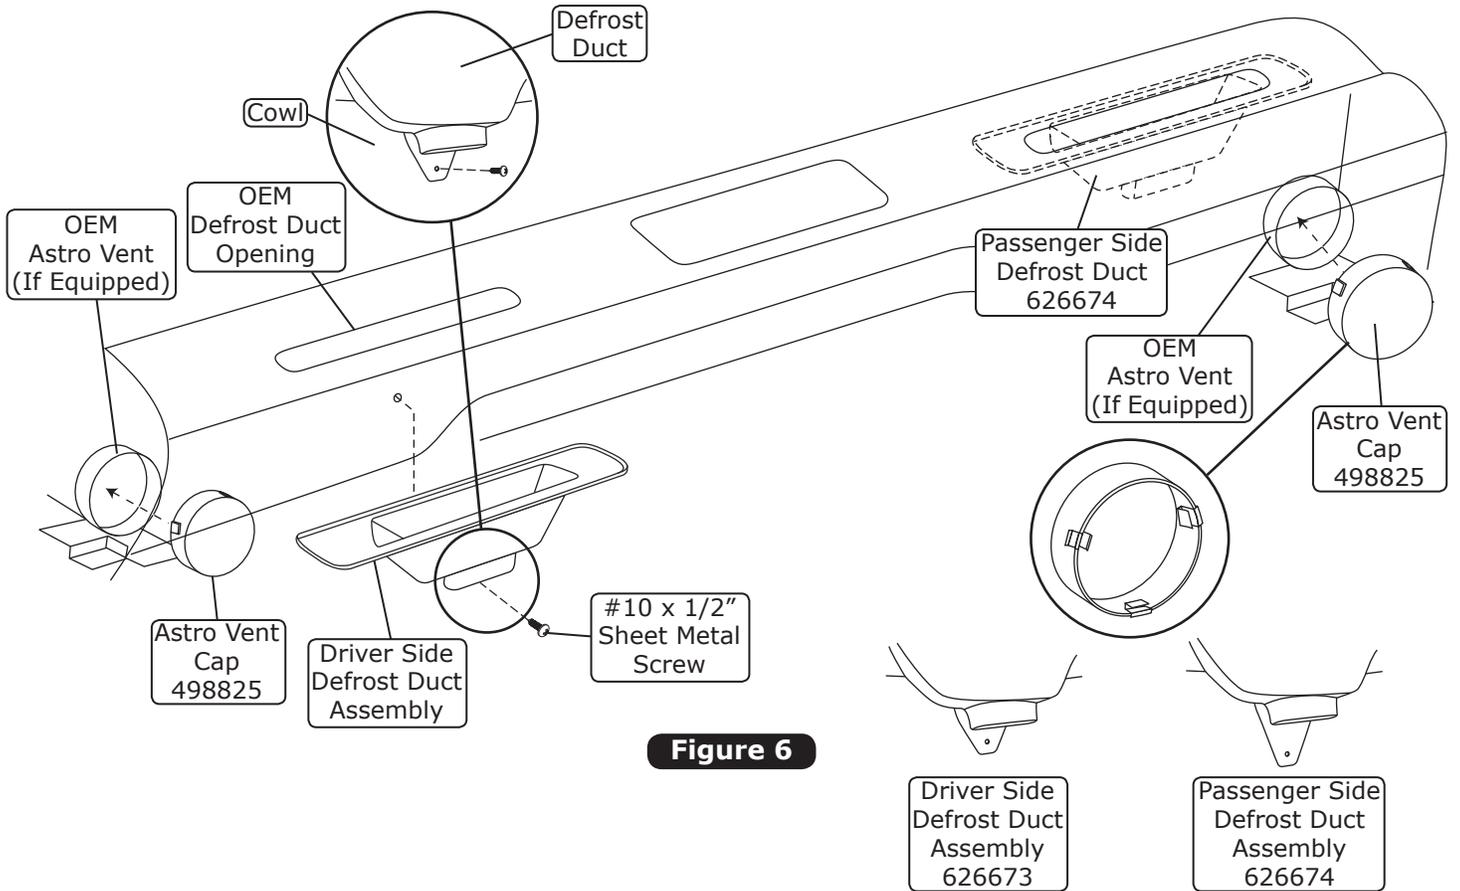

Figure 6
1. Install the defrost ducts under the dash, aligning them with OEM opening. Secure the defrost ducts to the cowl using #10 x 1/2" sheet metal screws (See Figure 6, below). **NOTE: On 1969 models, install astro vent cap as shown in Figure 6, below.**